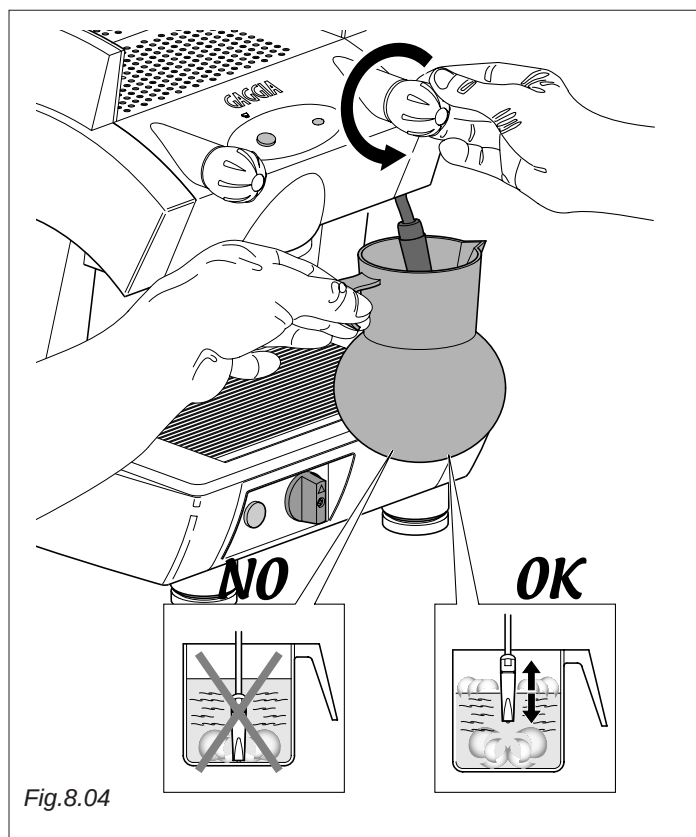

Fig.8.04
- Take a pot half filled with cold milk and place it under the steam rod (Fig.8.04).
- Slowly rotate the tap knob (Fig.8.04) anticlockwise to let the steam out.
- Rotate the pot, with a circular movement, paying attention that the steam nozzle end is not constantly immersed in the milk and "do not let milk boil" (fig.8.04).